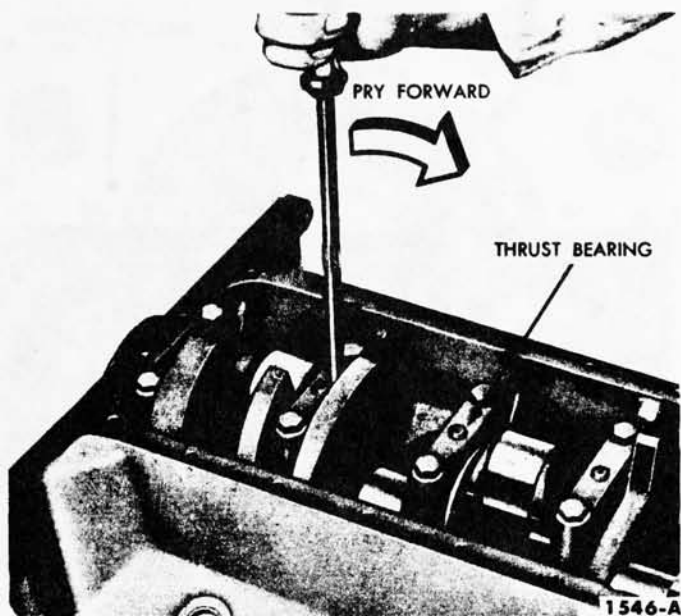
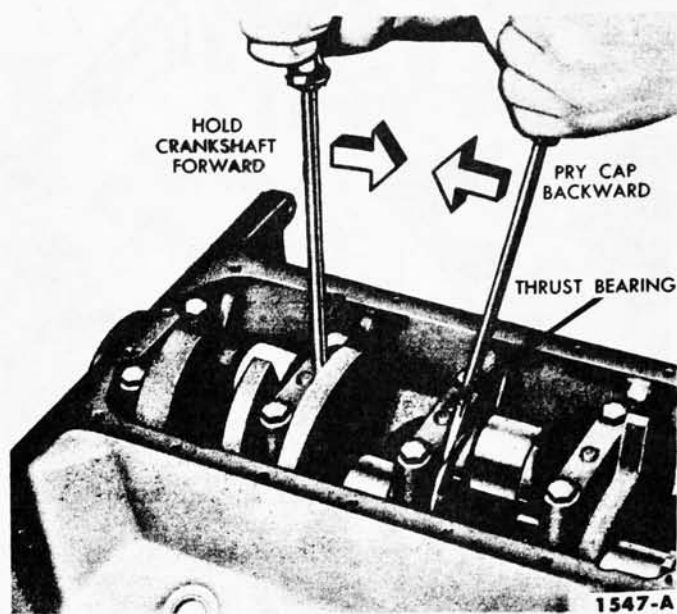
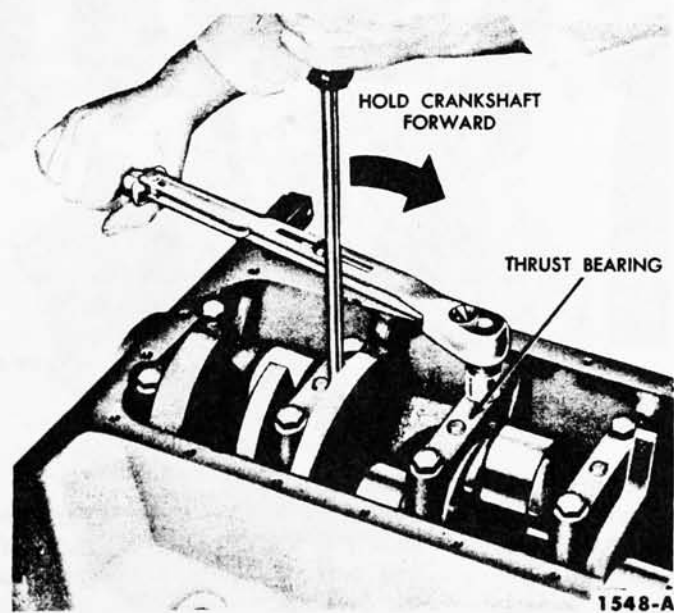

FIG. 31—Thrust Bearing Alignment—Pry Crankshaft Forward
FIG. 32—Thrust Bearing Alignment—Pry Cap Backward
FIG. 33—Thrust Bearing Alignment—Tighten Cap
6. Install the thrust bearing cap with the bolts finger tight, then pry the crankshaft forward against the thrust surface of the upper half of the bearing (Fig. 31). Hold the crankshaft forward and pry the thrust bearing cap to the rear (Fig. 32). This will align the thrust surfaces of both halves of the bearing. Retain the forward pressure on the crankshaft, and tighten the cap bolts to 95-105 foot-pounds torque (Fig. 33).